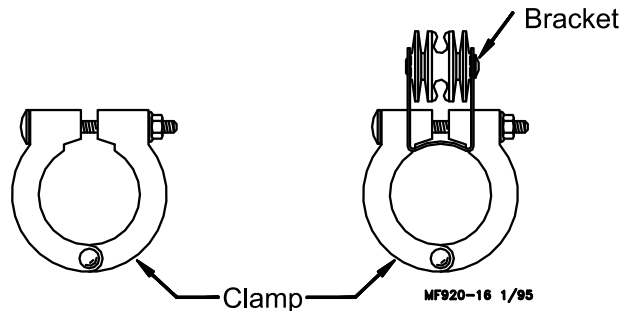

Figure 32. Tube Clamps
- Place a Tube Clamp Assembly or Clamp/Anti-Roost Bracket at each joint. **Figure 32** shows the standard Clamp and Clamp/Anti-Roost Bracket.